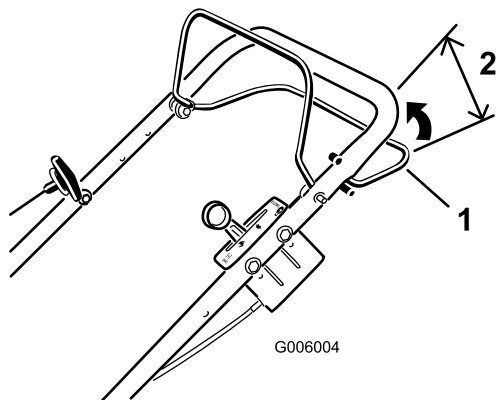
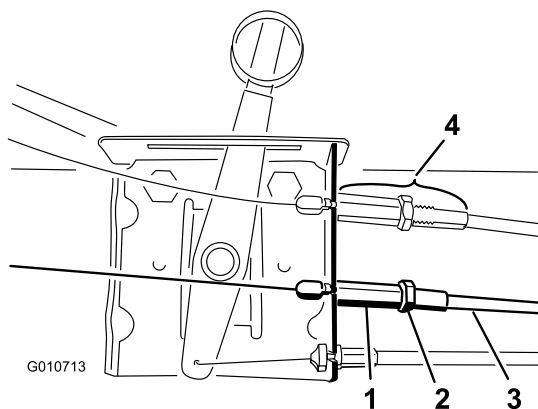

Figure 43
Figure 44
If the mower does not self-propel or it creeps forward when the self-propel drive bar is more than 2-1/4 inches (57 mm) when you move the self-propel drive bar toward the handle (Figure 43), adjust the self-propel drive.
1. Loosen the jam nut (Figure 44).
2. Thread the cable jacket into the weld nut to increase the gap between the bar and the handle (or unthread the cable jacket out of the weld nut to decrease the gap) (Figure 44) until you achieve the proper gap (Figure 43).